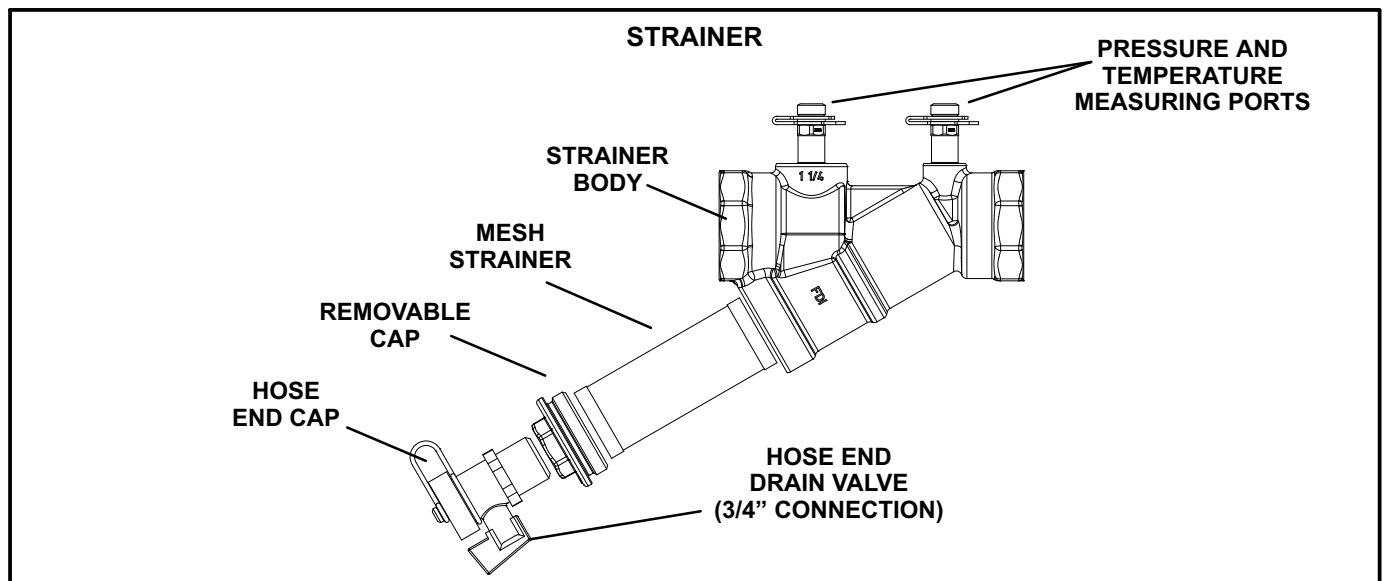

FIGURE 33
- 2- Remove the hose end cap. See figure 33.